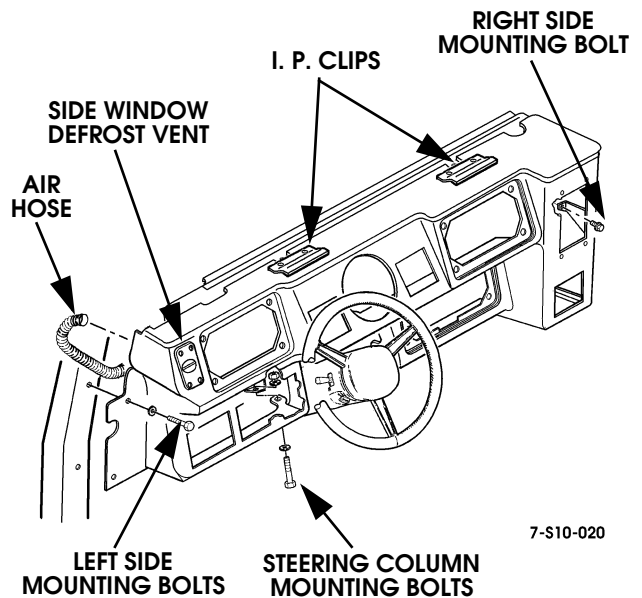

Figure 2-83: Instrument Panel Replacement
2. Tug gently on crashpad toward steering wheel to free crashpad clips from I. P. clips (Figures 2-83 and 2-84).
2. Position crashpad on edge of I. P. closest to steering wheel and push crashpad onto I. P. clips (Figures 2-83 and 2-84).